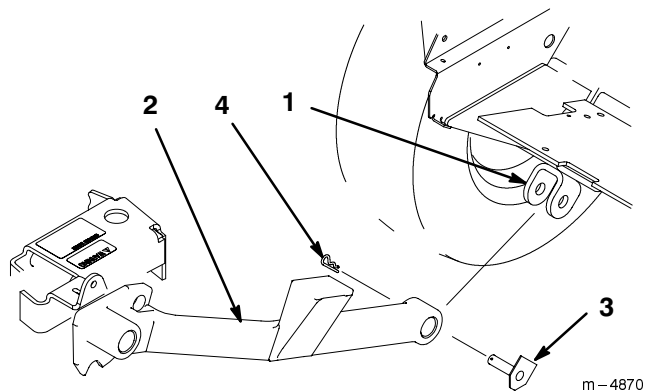

Figure 28
12. Remove hairpin cotters and pivot pin assemblies from push arms at traction unit pivot brackets (Fig. 28).